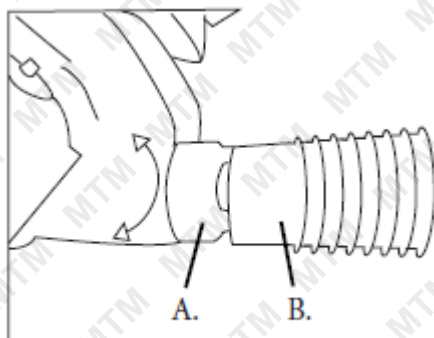
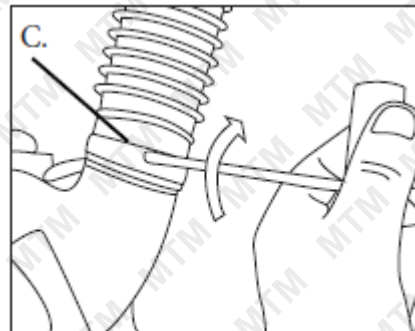

Fig.1
Fig.2
1. Put the hose clamp (C) on the flex tube before connecting the flex tube and the fan's outlet tube together.
2. Connect the flex tube (B) to the fan's outlet tube (A) (Fig. 1) with a hose clamp (C) (Fig. 2) and tighten securely (Fig. 2).